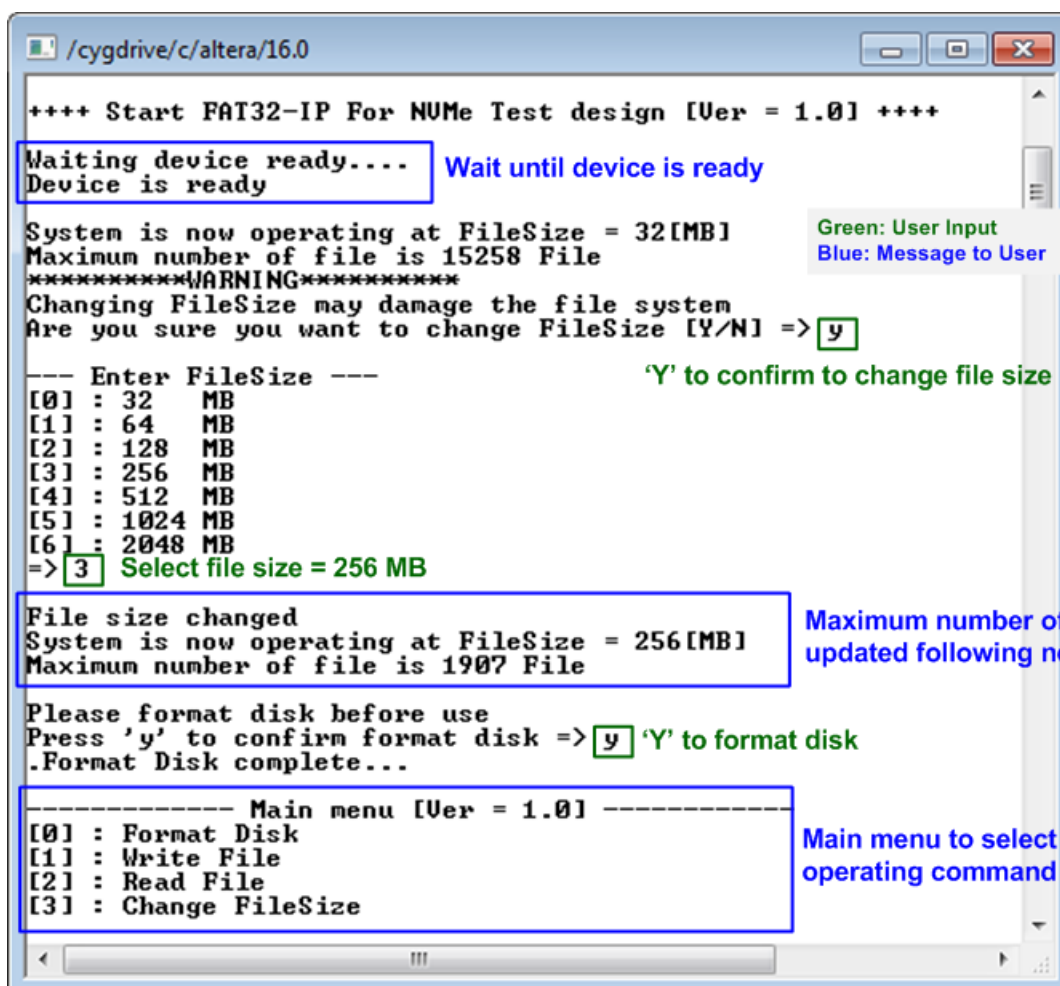
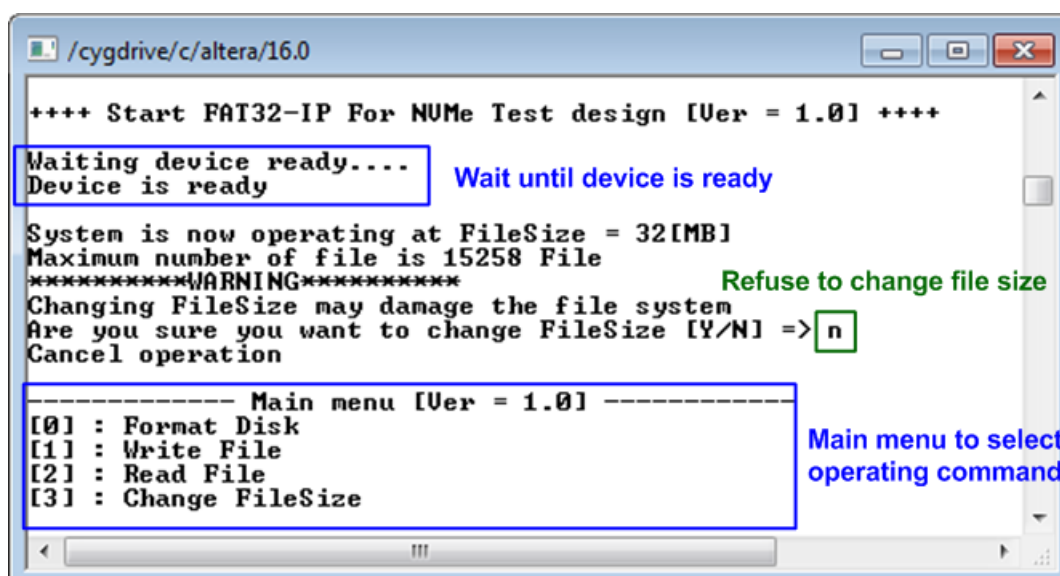

Figure 2-10 Main menu when confirm to set file size
Figure 2-11 Main menu when skip to set file size
- Open NiosII Command Shell and run nios2-terminal command. Boot message is displayed. User can set file size by press 'y' or 'Y'. If user refuses to set file size, it will be set to default (32 MB). After that, main menu is displayed on the command shell, as shown in Figure 2-10 and Figure 2-11.